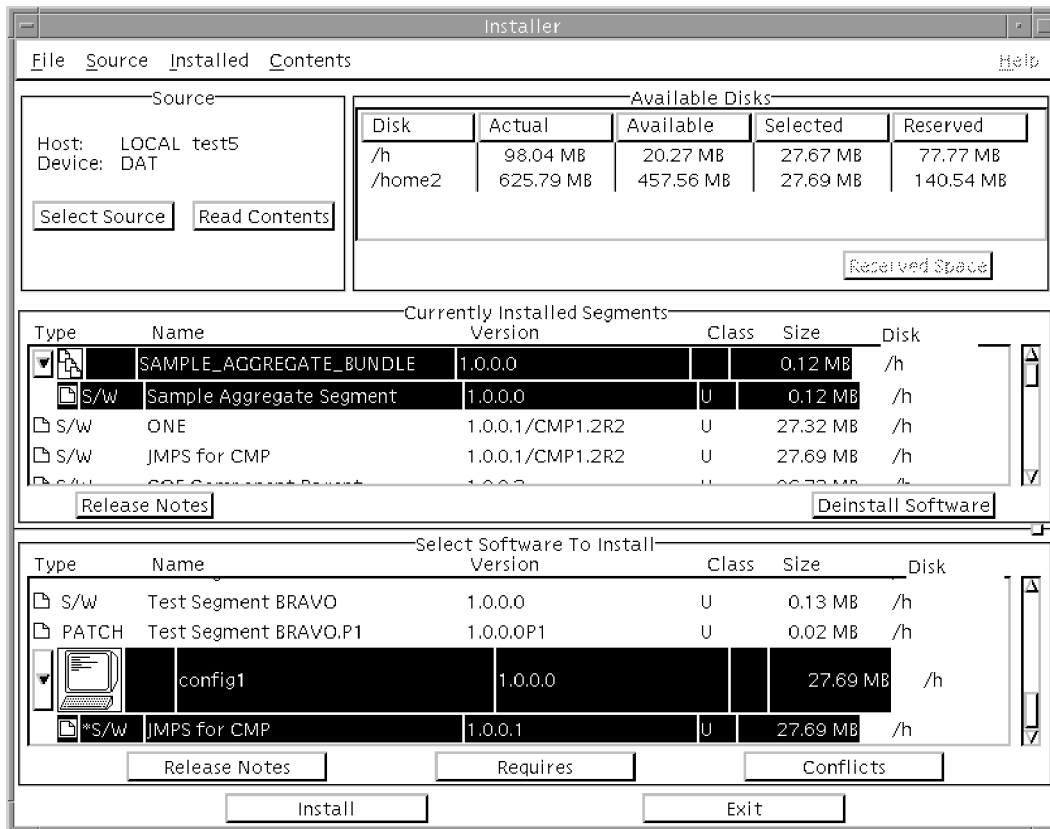

Figure 20. Installer Window with Select Software To Install Panel
Used to read the table of contents of the selected installation device. Click on the Read Contents button. The media will be scanned for the segments that it contains, and then the Installer window will add the Select Software To Install panel, which lists the segments that the media contains (Figure 20). Any number of segments may be selected in this panel for installation. See Section 6.4.1.3, *Installing Segments*, for additional information about the segment installation process.
STEP 2: Read the table of contents of the selected installation device. Click on the `Read Contents` button in the `Source` panel. The media selected on the `Select Source` window will be scanned for the segments it contains, and then the `Installer` window will add the `Select Software To Install` panel, which lists the segments that the media contains (Figure 20). Any number of segments may be selected in this panel for installation.